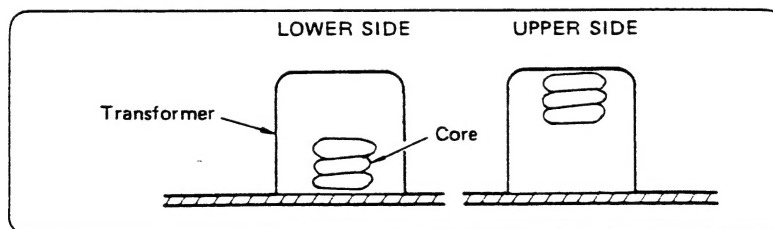

Fig. 18
2. The transformer core which has two tuning peak points. Adjust at the lower position as shown in Fig. 18.